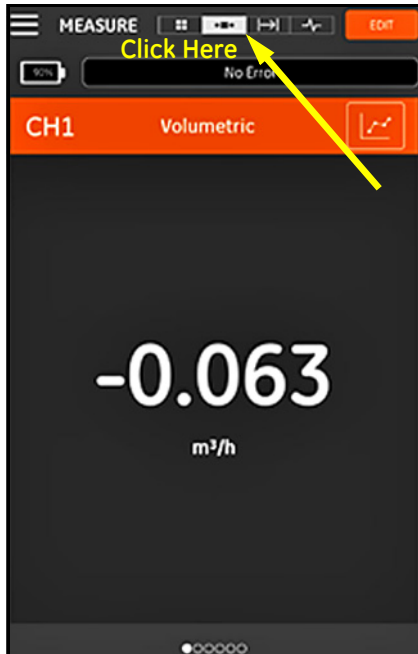

Figure 93: Single Measurement Screen
To change the screen to a one-measurement display (see *Figure 93* below), click the  icon. In this mode, one measurement is displayed at a time and you can switch between available measurements by swiping across the screen left or right.
- The default one-measurement display is the numeric value of the real-time measurement, as shown in *Figure 93 on page 96*.